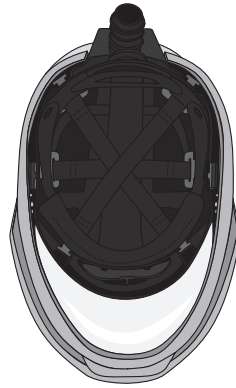

Fig. 1
2. Secure headgear in place with headgear opening facing up and faceshield positioned toward you. Ensure that the headgear does not shift from this position (Fig. 1).